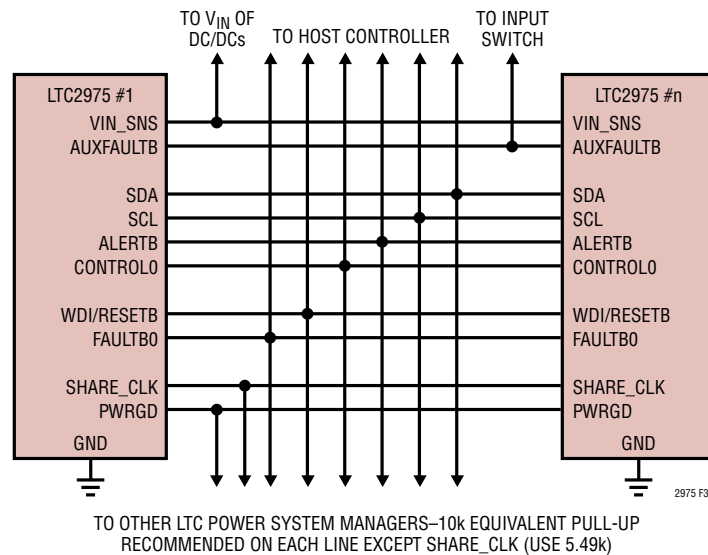
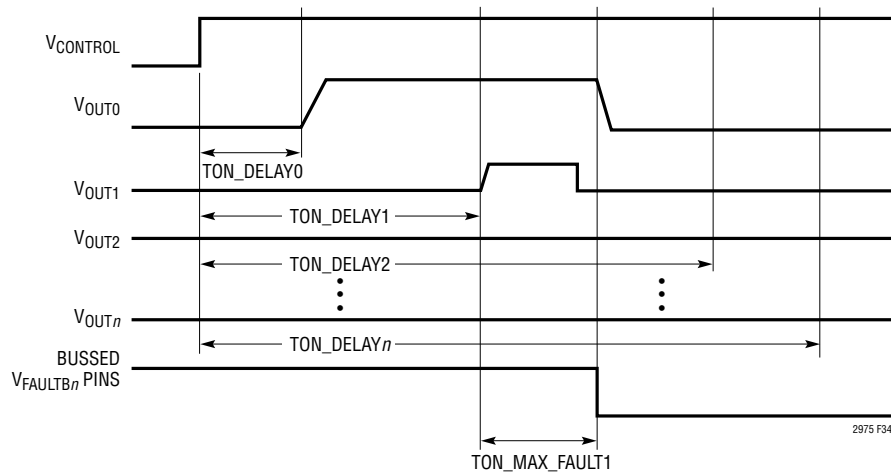

Figure 33. Typical Connections Between Multiple ADI Power System Managers
Figure 34. Aborted On-Sequence Due to Channel 1 Short
Figure 33 shows how to interconnect the pins in a typical multi-LTC2975 array.
- The FAULTB lines can be connected together to create fault dependencies. Figure 33 shows a configuration where a fault on any FAULTB will pull all others low. This is useful for arrays where it is desired to abort a startup sequence in the event any channel does not come up (see Figure 34).
- PWRGD reflects the status of the outputs that are mapped to it by the MFR\_PWRGD\_EN command. Figure 33 shows all the PWRGD pins connected together, but any combination may be used.